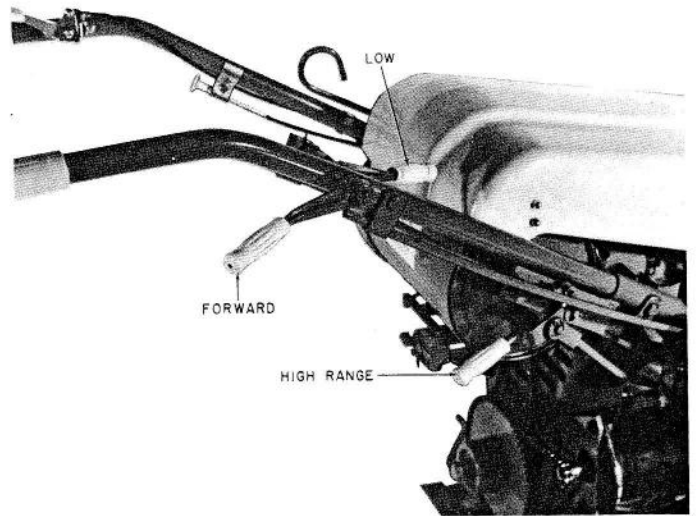

Figure 5
**Engaging wheels**—To put tractor in motion, first move the inside operating lever to either the high or low position (Figure 5). Then move the outside operating lever into forward or reverse. Use a smooth, even motion in shifting the operating levers. Depress the throttle to the desired speed.